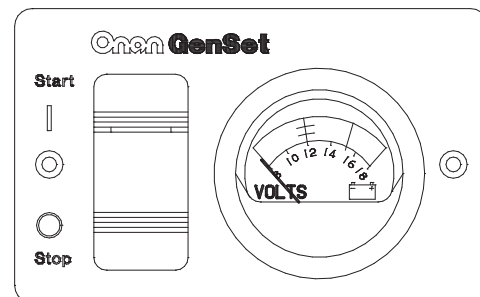

FIGURE 6. REMOTE SWITCH / DC VOLTMETER
- Remote switch / status lamp and DC voltmeter (Figure 6).